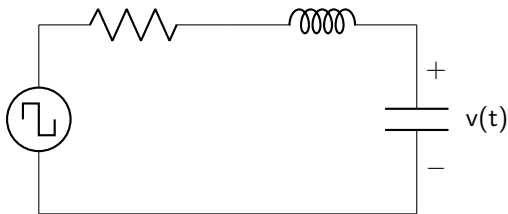

Figure 10.3: RLC circuit diagram.
3. Is figure 10.3 a first order or second order circuit? How do you know?